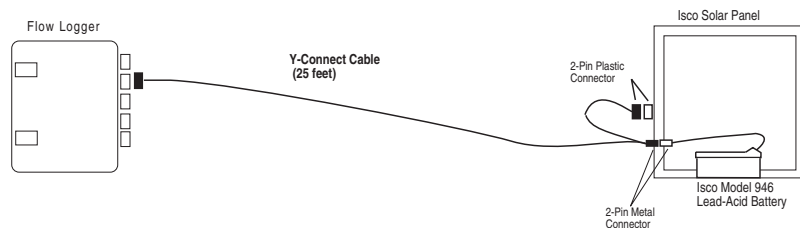

Figure 4-6 Connecting Solar Panels to the 4120
- Isco Model 946 Lead-Acid Battery recharged on-site with an Isco Model 954 Solar Panel. The battery mounts on the solar panel; it does not fit in the 4120's battery compartment. (See Figure 4-6 and Figure 4-7.)